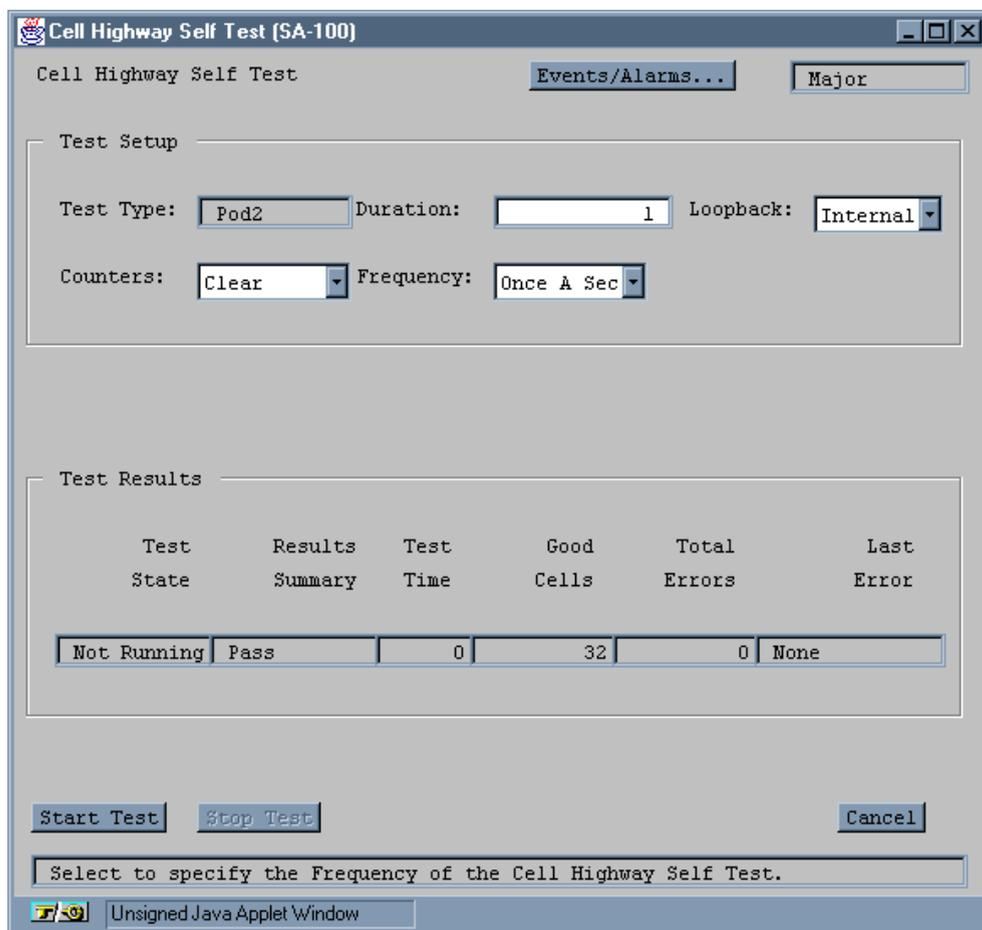

Figure 8-4. Cell Highways Self Test Window
- Choose the cell highway you want to test from the Select Cell Highway Self Test list. The Cell Highway Self Test Window appears (Figure 8-4):